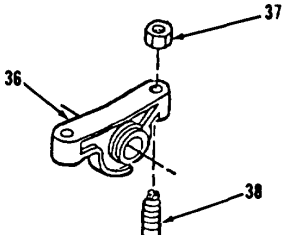

Figure 3-60.
- 12. Install screw (38) and lock nut (37) in arm (36, Figure 3-60). Loosely tighten lock nut (37).